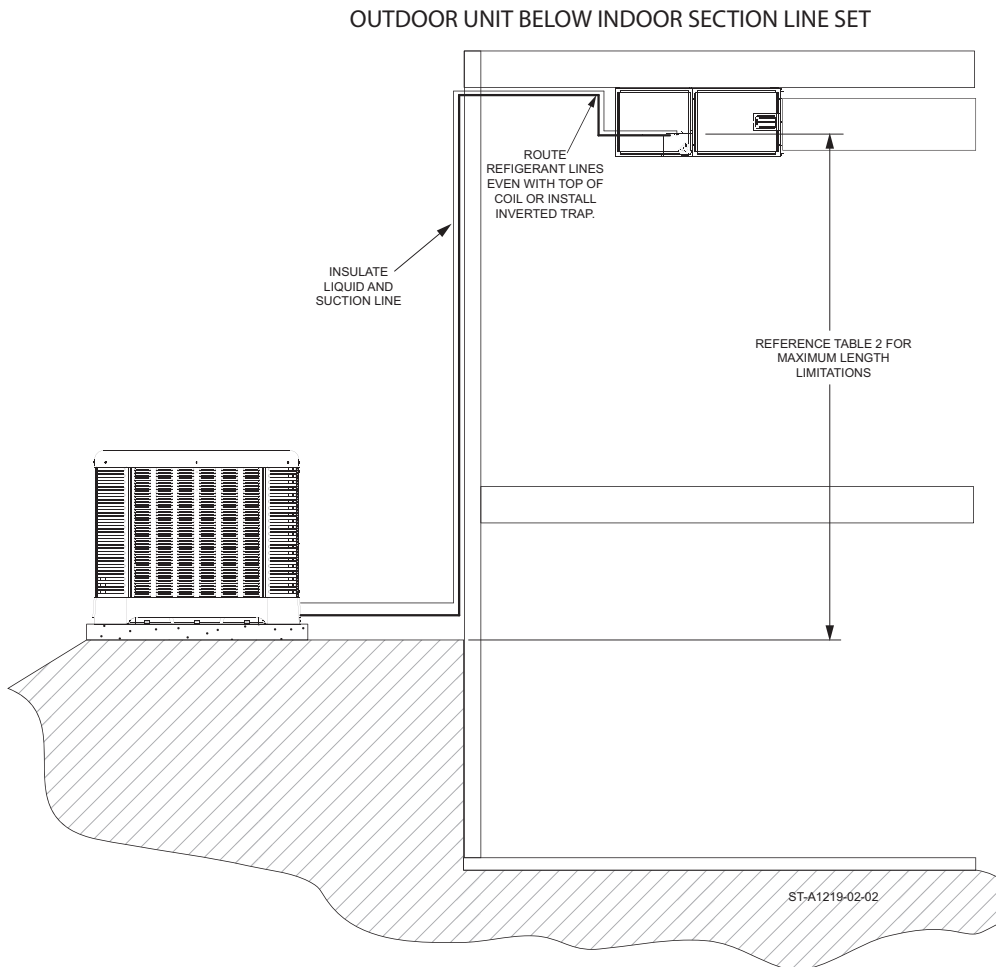

Figure 4
- Refrigerant lines should be routed even with the top of the ID coil or an inverted trap is to be applied. (Reference figure 4).